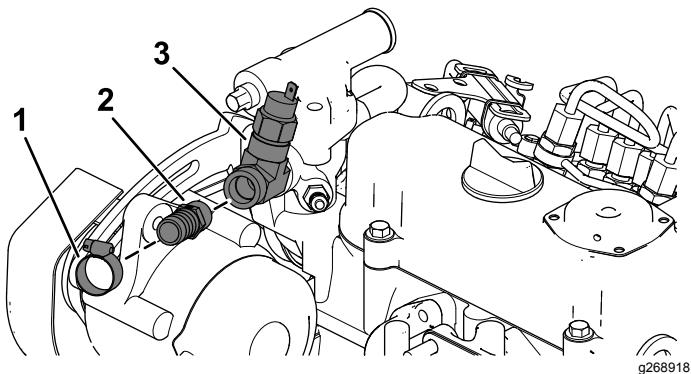

Figure 16
D. Install the hose (3/8 inch) and adapter fitting (5/8 inch) with hose clamps (Figure 16).